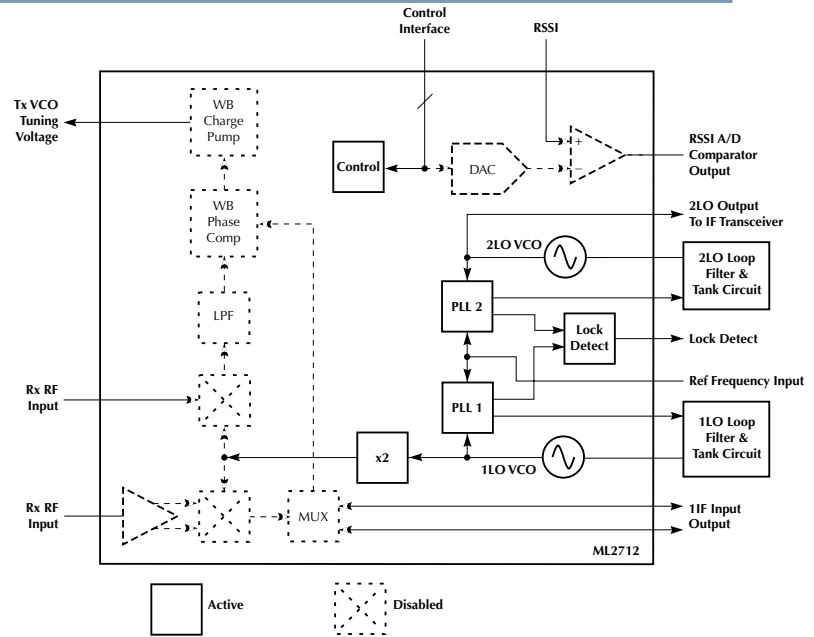

Figure 1. Standby Mode Active Circuits
In STANDBY mode all the PLL and VCO circuits are enabled while all the transmitter and receiver circuits are disabled. (see Figure 1) The use of STANDBY mode is recommended when the PLLs are locking, after the PLL frequencies have been reprogrammed, or after the IC has been transferred out of SLEEP mode. The VCO and PLL circuits are enabled and reach a locked state in 150 usec indicated by an active Lock Detect (LD) signal. The frequency divide ratio settings defined by Control Word C and D (see Table 4) define the frequencies of the 1LO PLL and 2LO PLL.